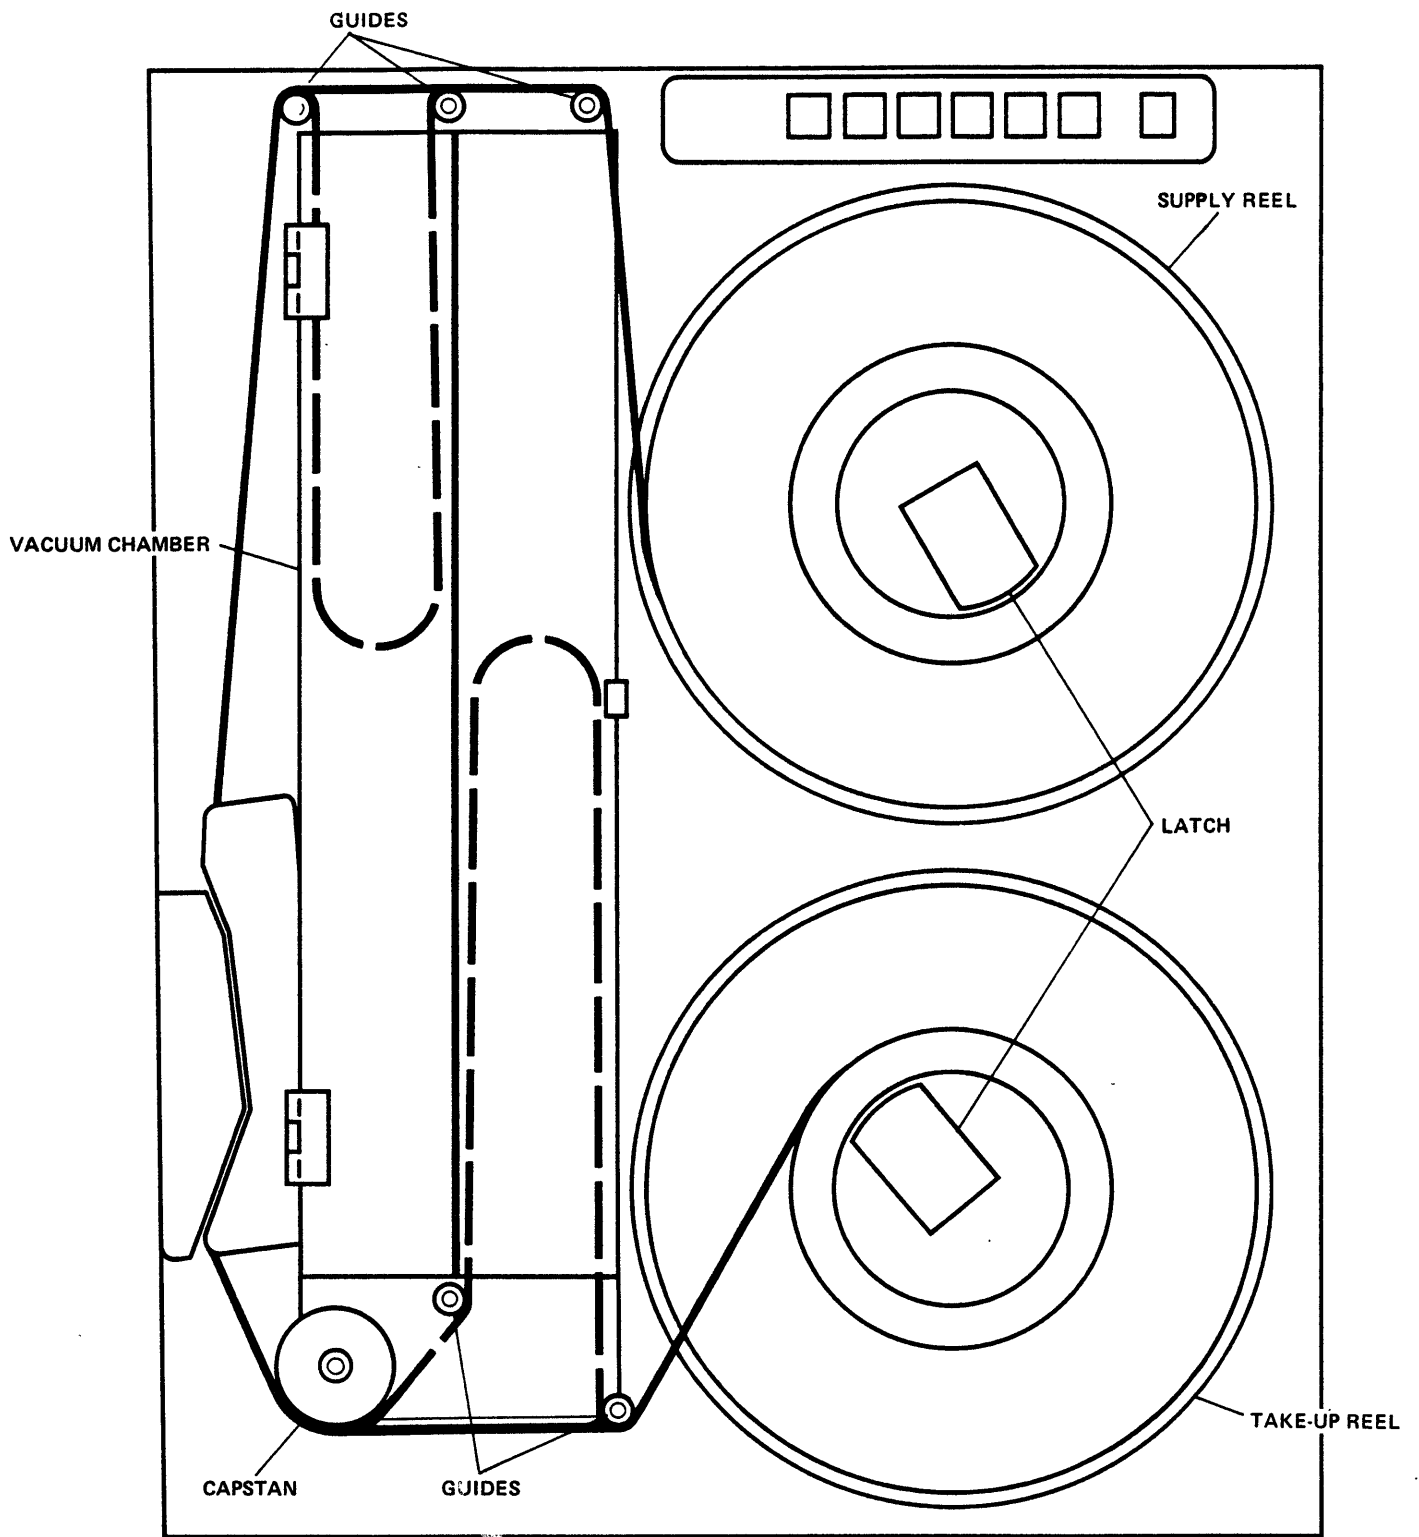

Figure 3-2. Diagram of Tape Threading Path
- d. Notice the tape threading diagram inside the cover door, or refer to figure 3-2 and thread the tape as shown. Secure the tape end to the takeup reel by holding the tape end with a finger through the hole in the reel flange and rotating the takeup reel in the clockwise direction. Continue turning the takeup reel a few turns in the clockwise direction until you are sure that the tape is on securely and there is enough tape to tension the tape.